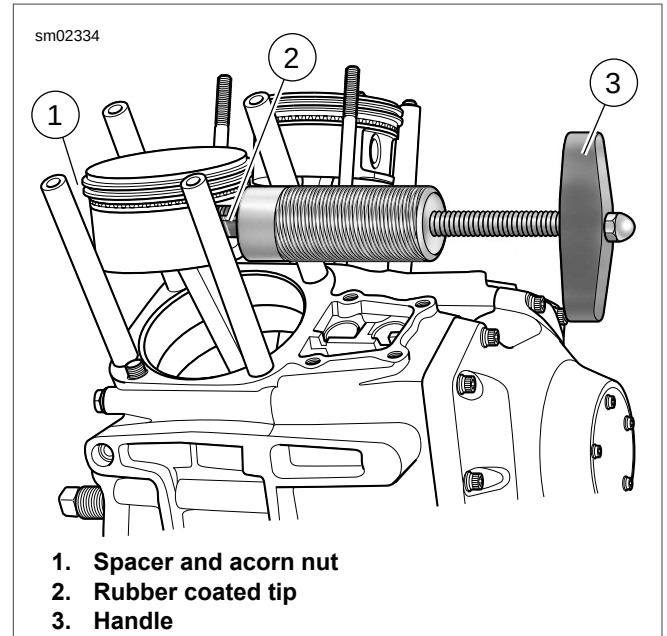

Figure 3-29. Piston Pin Removal
- See Figure 3-29. Remove the piston pin. If piston pin is difficult to remove, use PISTON PIN REMOVER (Part No. HD-42320-B).
- Slide rod end through piston pin. Install spacer and acorn nut (1) on end of rod.
- Position rubber-coated tips (2) of tool on flat each side of pin bore.
- Turn handle (3) clockwise to remove piston pin.